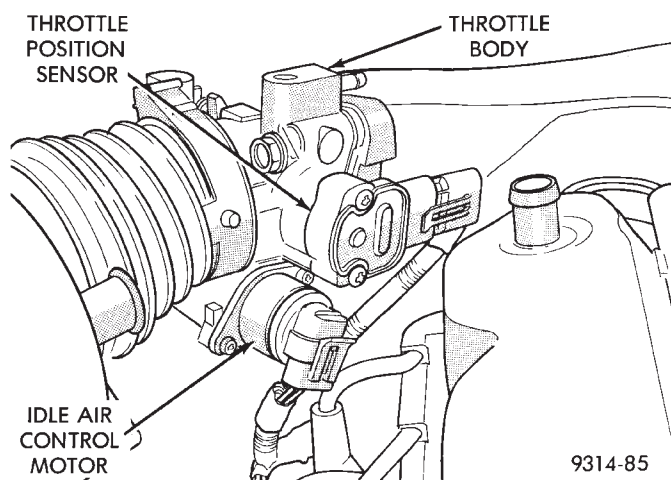
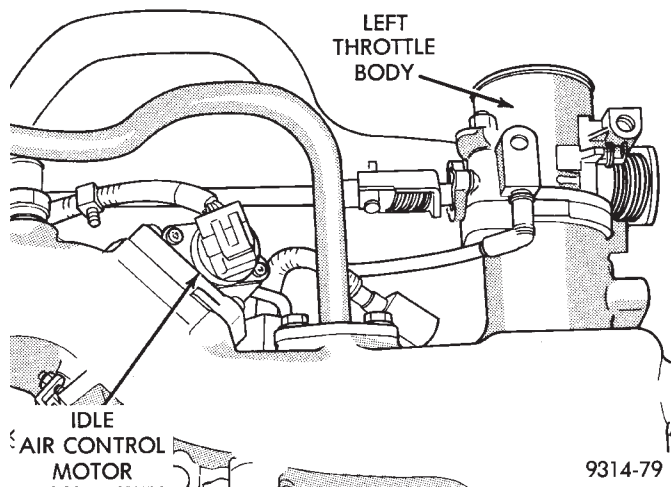
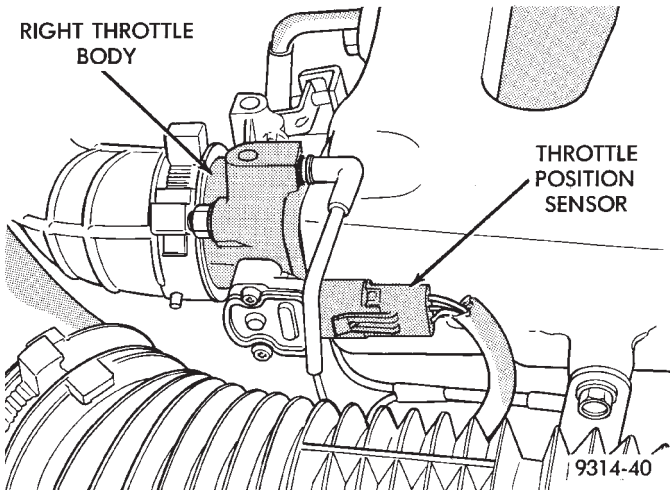

Fig. 37 Idle Air Control Motor—3.3L Engine
Fig. 38 Idle Air Control Motor—3.5L Engine
Fig. 39 Throttle Position Sensor—3.5L Engine
(4) Ensure spark plug cables are firmly connected in the correct order to the coil pack and spark plugs.
(5) Ensure the electrical connector is completely attached to the idle air control motor (Fig. 37) or (Fig. 38).
(6) Ensure electrical connector is attached to the throttle position sensor (Fig. 37) or (Fig. 39).